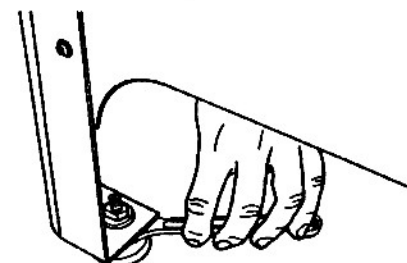

Fig. B-3
- b. Use the same wrench to turn the bottom nut counter-clockwise to lengthen the leveling foot, as seen in Fig. B-3.